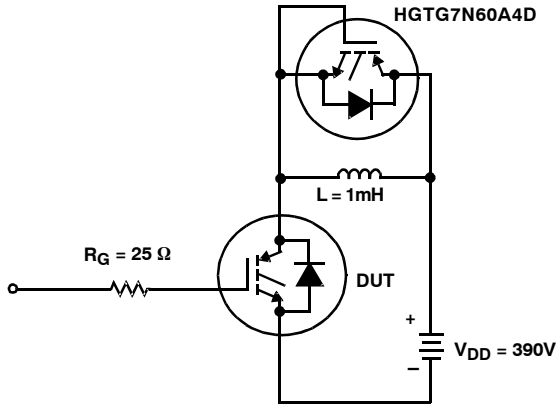

Figure 24. INDUCTIVE SWITCHING TEST CIRCUIT
2. Values for two Turn-On loss conditions are shown for the convenience of the circuit designer.  $E_{ON1}$  is the turn-on loss of the IGBT only.  $E_{ON2}$  is the turn-on loss when a typical diode is used in the test circuit and the diode is at the same  $T_J$  as the IGBT. The diode type is specified in Figure 24.